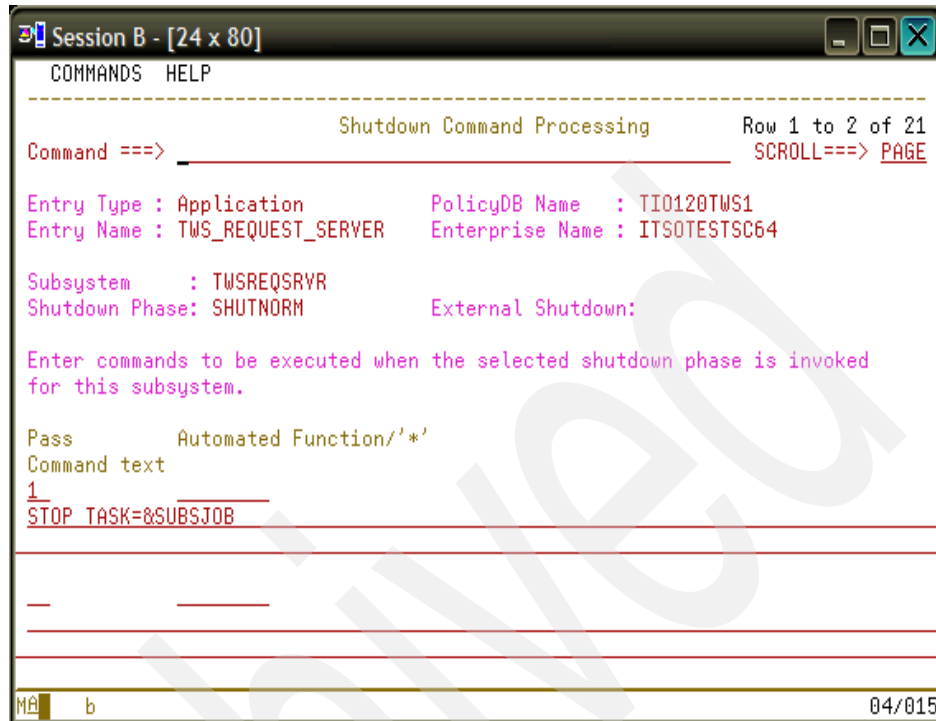

Figure 4-32 Shutdown Command Processing
- There is no INIT, IMMED, FORCE, or FINAL Phase for the TWS for z/OS request server. Place an s in the Action column next to NORM. The Shutdown Command Processing panel that is shown in Figure 4-32 on page 136 displays.